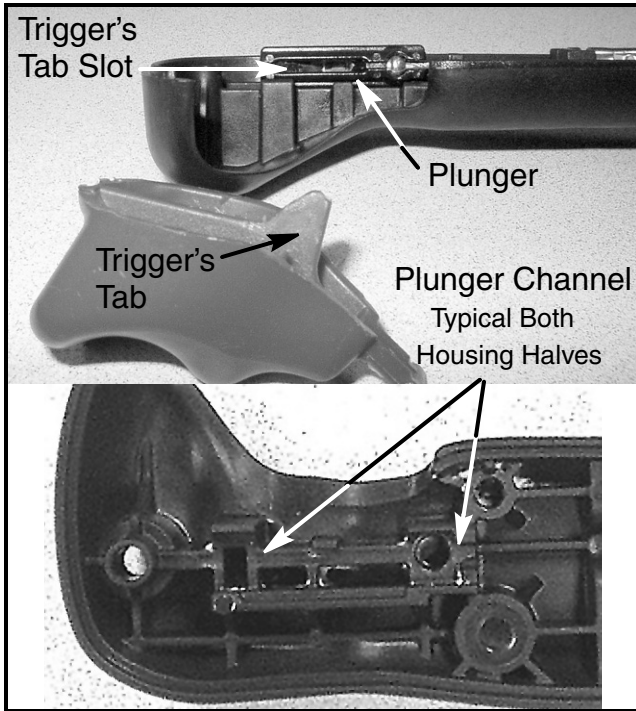

FIGURE 4
9. With the new Plunger, Item 4, place the ball end of the trigger cable into the round ball socket in the new plunger. See Figure 4.